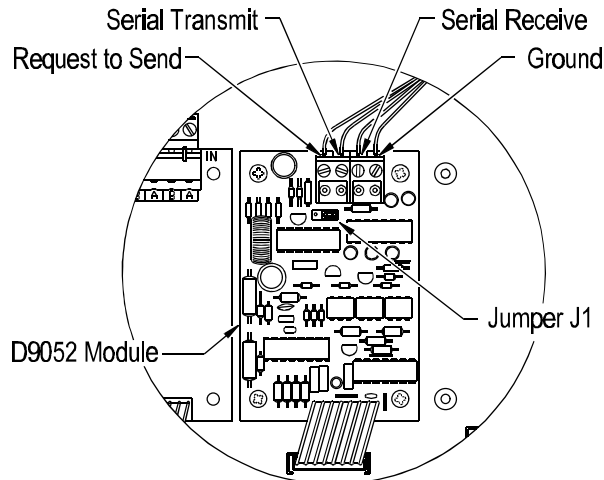

Figure 14: D9052 Serial Input/Output Connections
- The D9052 eight-wire ribbon connector plugs into the below the port. The serial input/output (modem) wiring connects to the D9052 module at the terminal block at the top of the module. See Figure 14.